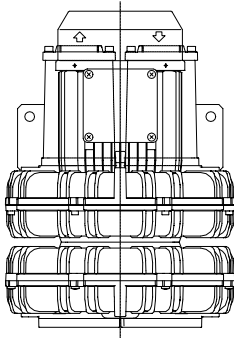
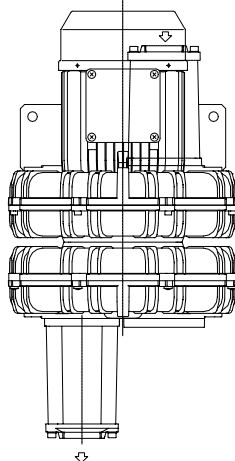

Fig.2
Fig.3
Fig.2 with 90° manifold
Fig.3 with two 90° manifolds
1. Identify the desired configuration (Fig.2, Fig.3, Fig.4).